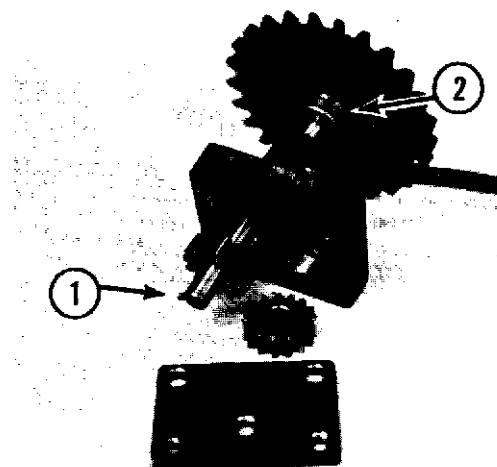

Fig. 11-20
- B. Remove the pin (1, Fig. 11-20) from the shaft if it is necessary to remove the gear.
- C. Drive the pin from the hub (2, Fig. 11-20) of the drive gear if it is necessary to replace the drive gear.